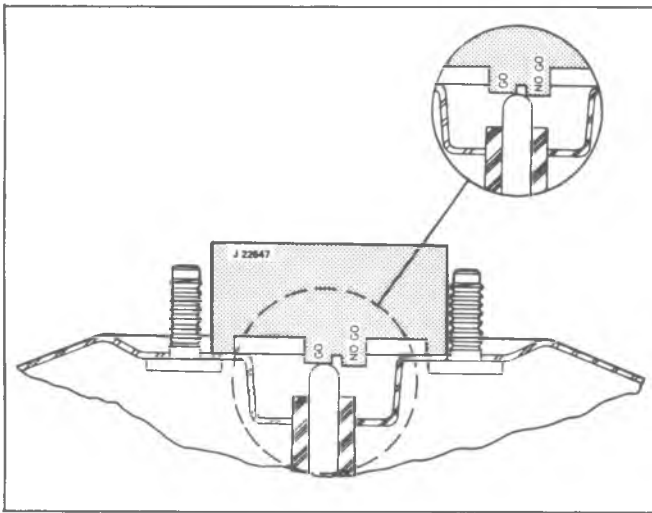

Fig. 5-10A--Gaging Piston Rod
5. Place Gage J-22647 over the piston rod in a position which will allow the gage to be slipped to the left or right without contacting the studs (fig. 5-10A).